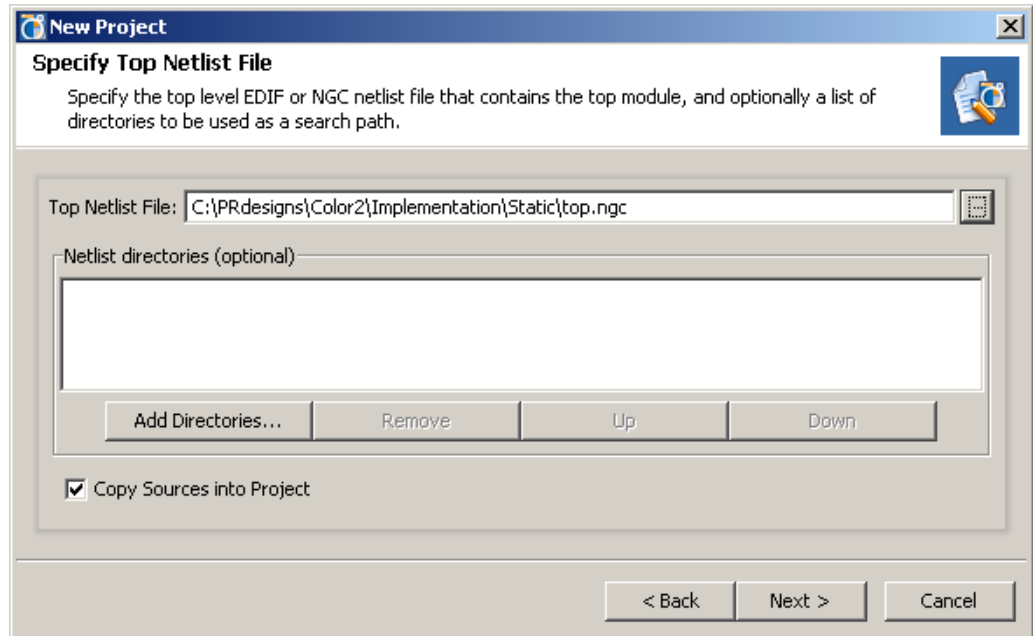

Figure 4-2: Import Netlists for Static Logic Only
2. Specify the top-level netlist. Netlist directories should be set to point to locations where other modules for static logic exist. In this example, all the static logic is included in `top.ngc`. The lower-level (reconfigurable) modules will be imported later. Figure 4-2 shows the **New Project > Specify Top Netlist File** dialog box.